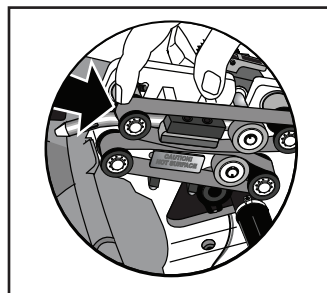

Figure 19
4. Push spring-loaded rollers toward front of machine to loosen either Seal Belt. (See Figure 19)